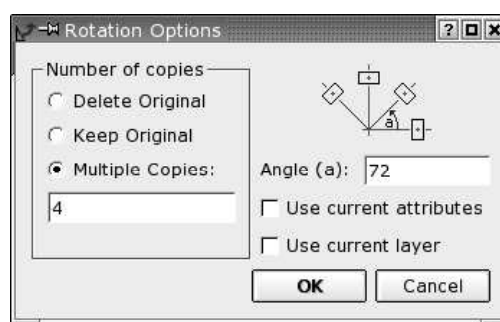

Figure 53: Rotate options dialog.
4. The rotate dialog is displayed (Figure 53). To rotate the entities without keeping the original entities, choose "Delete Original", to copy them choose "Keep Original". Finally you can create a number of rotated copies at once, by choosing "Multiple Copies" and entering the number of copies in the text line below. Note that '9' will create 9 copies and keep the original - so there will be 10 instances of the entities in the end. The copies will have the same attributes and be on the same layer as the original entities. To change that default behavior, you can tick "Use current attributes" or "Use current layer".